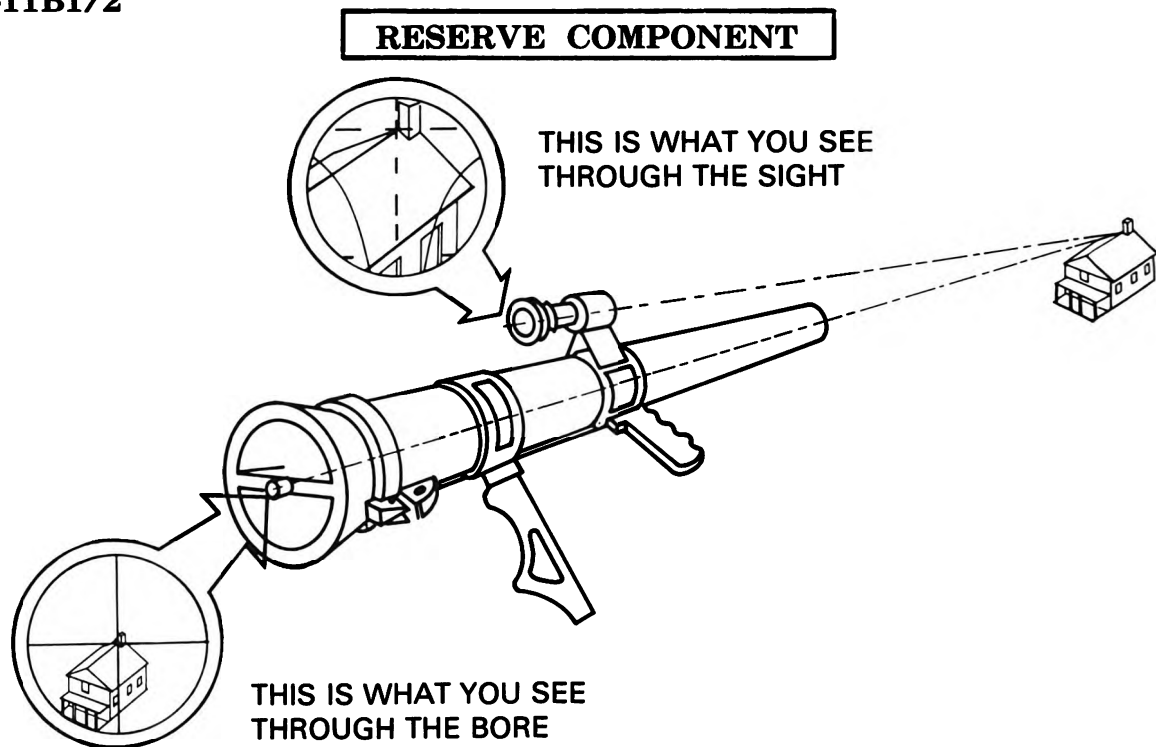

Figure 1.
Within 5 minutes, aline both the sight and the bore so that the edge of the target is alined at the same point of intersection of both sets of crosshairs (figure 1).
4. Look through the telescope and insure that the boresight cross of the sight reticle is alined on the aiming point at the same point of intersection of both sets of crosshairs. If the boresight is not alined, bring it to the aiming point by rotating the elevation and azimuth correction screws with either the screwdriver end of the combination wrench or a small screwdriver. Recheck the alinement through the bore and through the sight. When the sight and the bore are properly alined on the aiming point, the 90-mm RCLR is boresighted (figure 1).